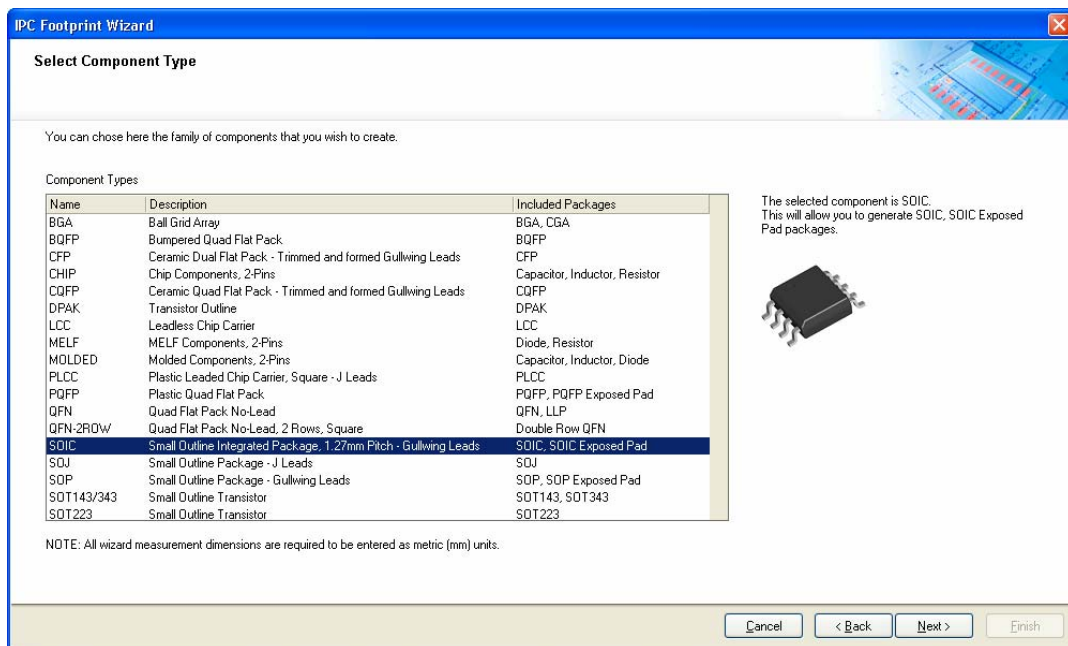

Figure 7. Choose the footprint type in the IPC Footprint Wizard
6. In the list of pattern types, select Small Outline Integrated Package (SOIC), as shown below in Figure 7.